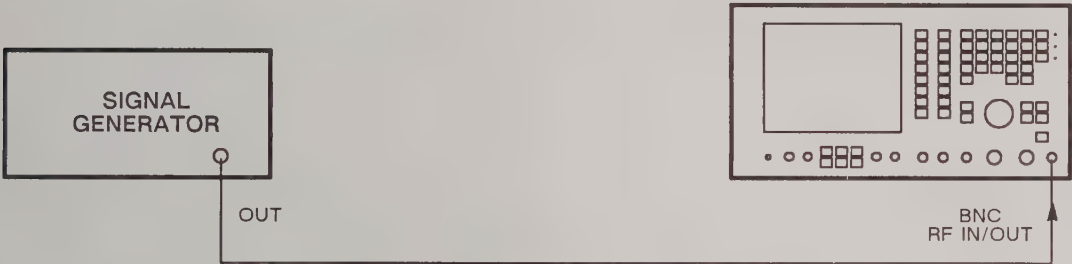

Fig. 6-30 Test equipment connections for 2955R sensitive receiver level
- (1) Connect the signal generator RF output to the RF IN/OUT BNC socket. See Fig. 6-30.